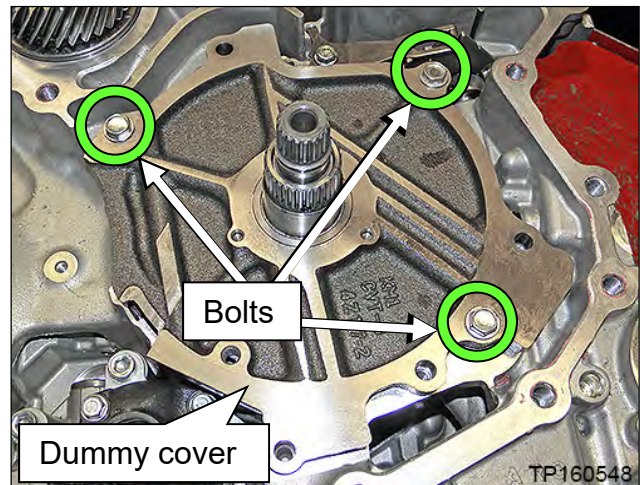

Figure 65
46. Temporarily install the dummy cover with three (3) bolts, finger tight (Figure 65).